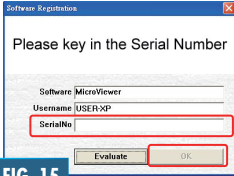

FIG. 15
- Key in the Serial Number (which can be found on the outside of the CD envelope) or just press the "Evaluate" button for a 30 day free trial (Fig. 15).